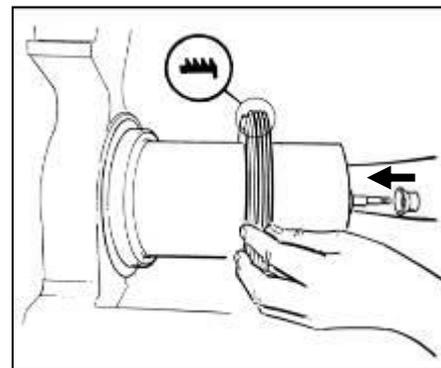

Fig. 13
- Reassemble the rear gasket and the bell shaped one, respecting the correct direction as indicated in figure 13.